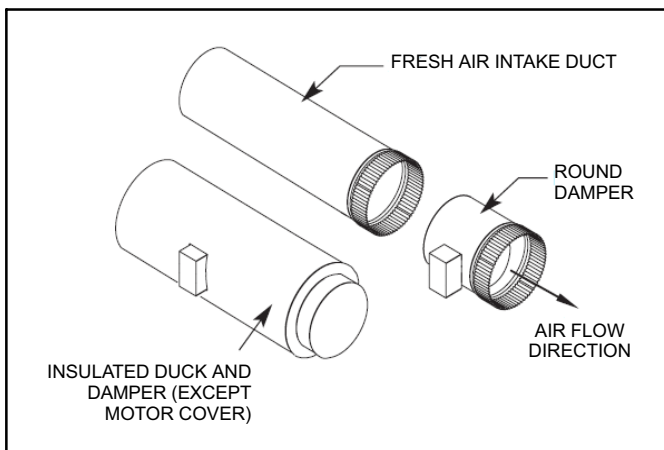

Figure 3. Damper and Fresh Air Duct Installation
3. The fresh air intake duct and damper must be fully insulated and all seams must be sealed to prevent condensation from forming. Refer to figure 3.